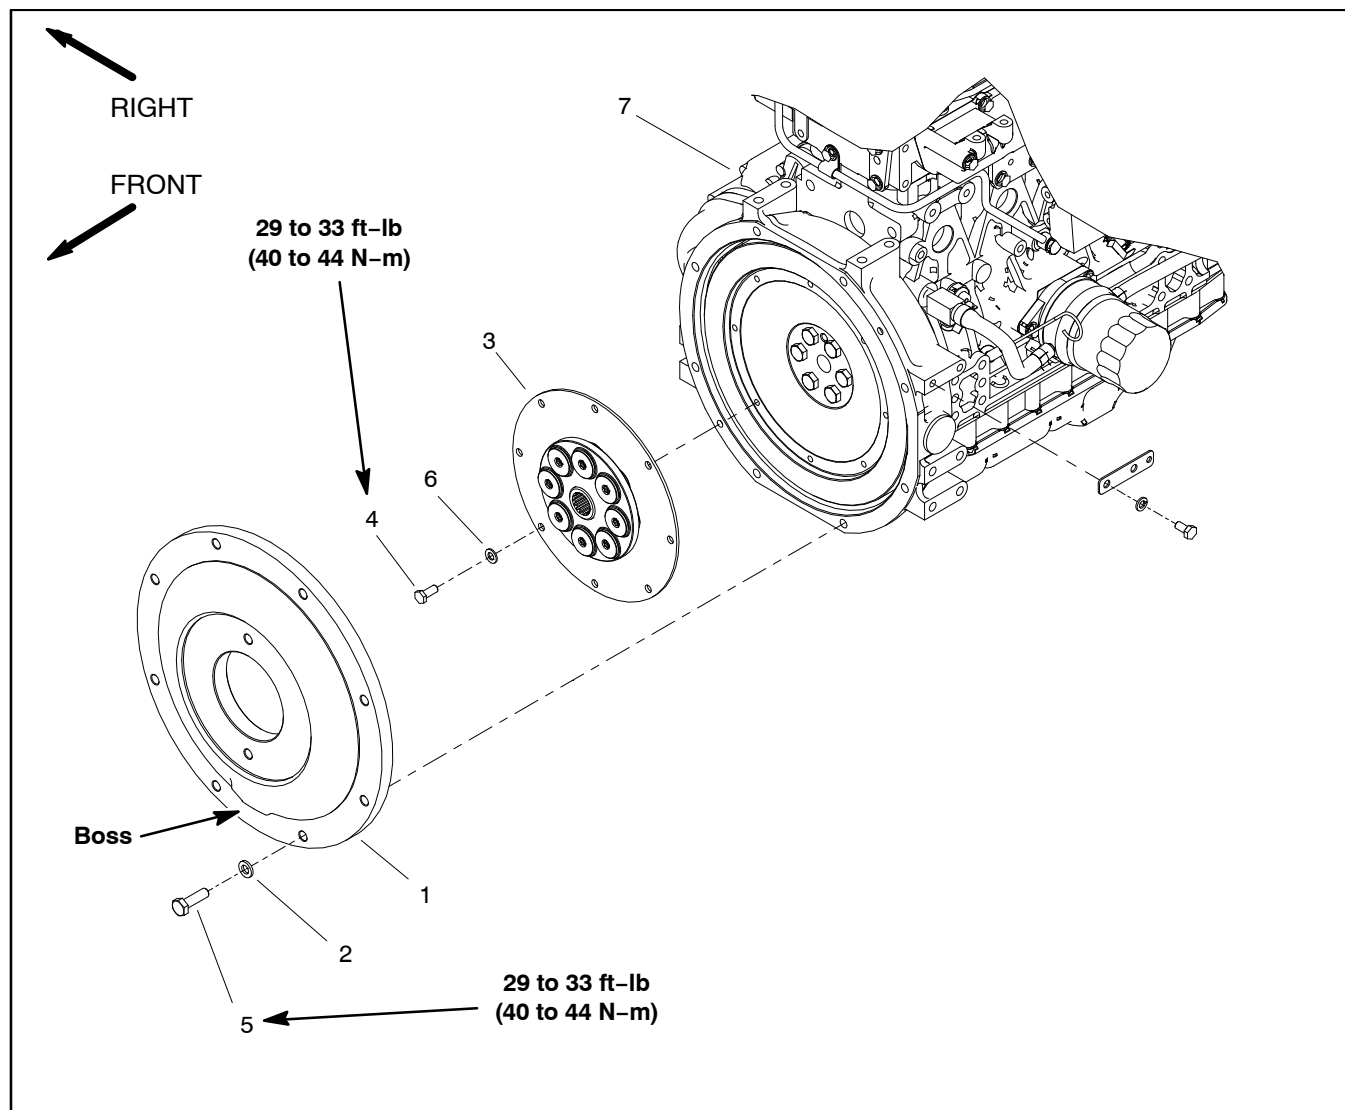

Figure 16
### Coupler Removal (Fig. 16)
2. Remove flywheel plate and spring coupler from engine using Figure 16 as a guide.
### Coupler Installation (Fig. 16)